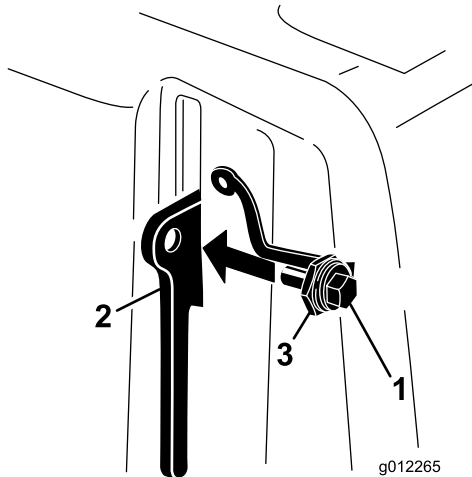

Figure 18
3. Thread the bolt into the latch lever (Figure 18).